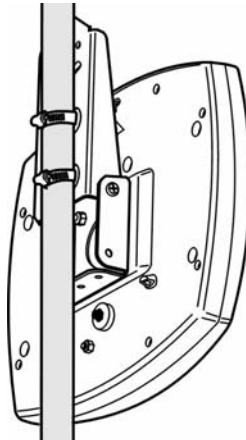

Figure 4.6: Pipe mounted DDU
1. Feed the end of the hose clamp through the holes as shown in Figure 4.6: "Pipe mounted DDU".